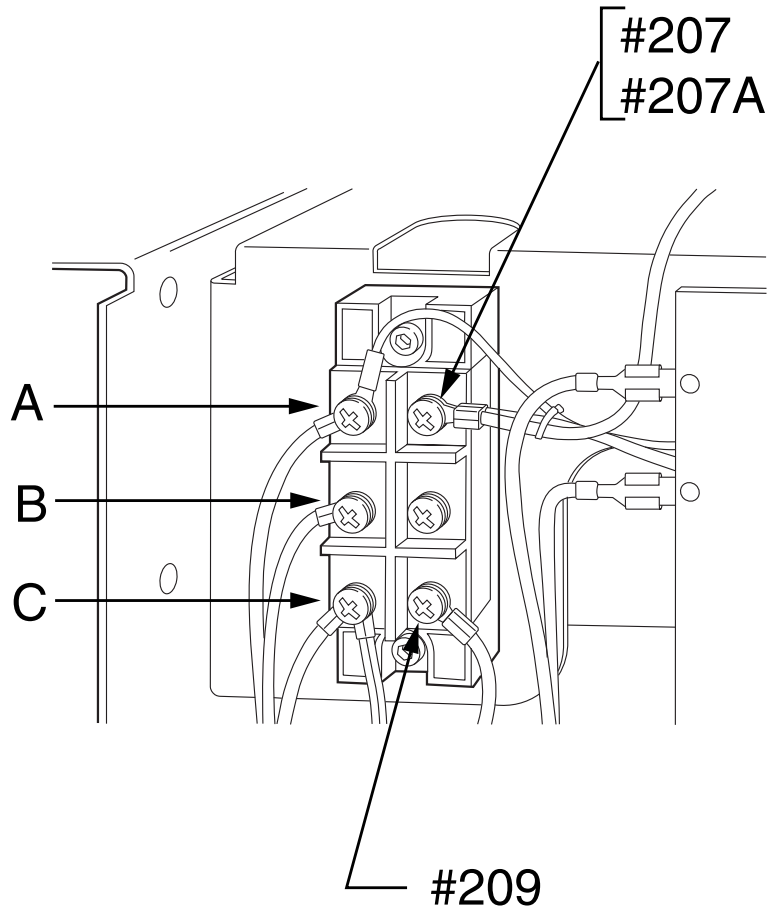

Figure F.2 Input Rectifier and Leads.
4. With the Phillips head screwdriver remove leads #207, 207A and #209 from the rectifier. See Figure F.2.
8. If the Input Rectifier is good be sure to reconnect leads #207, #207A and #209 to the correct terminals and torque to 31IN-LBS. See wiring diagram and **Figure F.2**.